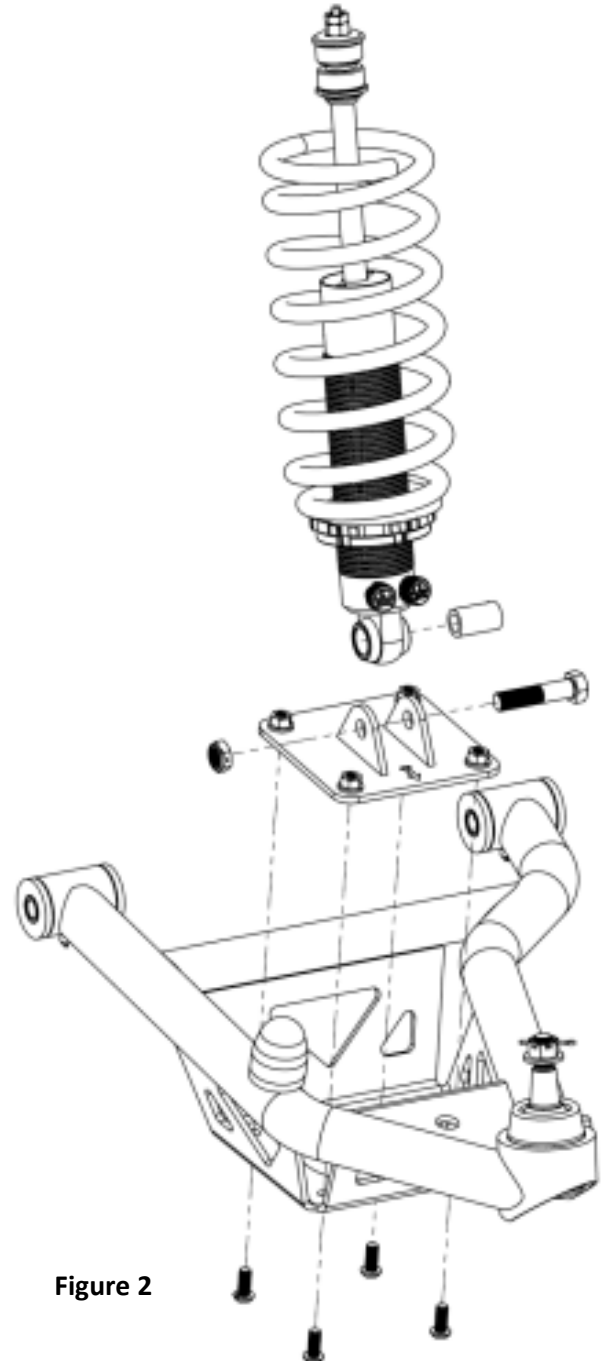

Figure 2
1. Lubricate and install the 3/4" O.D. sleeve (included with the control arms) into the lower shock eye bushing and install the adaptor plate on the shock using the 2 1/4" x 1/2" bolt and 1/2" locking nut and tighten. Install the adaptor plate with the arrow pointing towards the lower ball joint. See **Figure 2**.